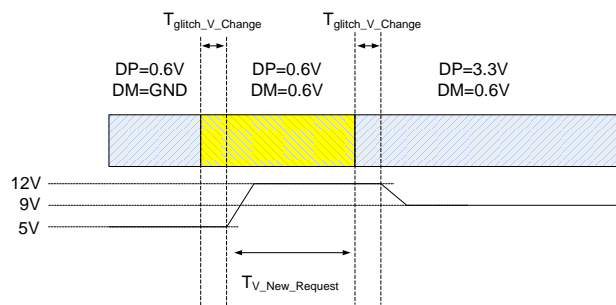

Figure 2: QC Mode Transition
If the downstream device of the MP5034 supports QC specification, the device can require a higher USB bus voltage than 5V by DM and DP communication. If a higher bus voltage is required, ADJ must be used. ADJ is connected to the feedback pin (FB) of an upstream voltage converter, typically. After the handshake, the MP5034 sinks a controlled current gradually via ADJ to adjust the V_{BUS} value to 9V, 12V, or another voltage (200mV step-by-step). Because of smart controller mode, only one ADJ pin can set a different high voltage, which meets the QC specification. The bus voltage transition is smooth and has no undershoot/overshoot (see Figure 2 and Table 1).